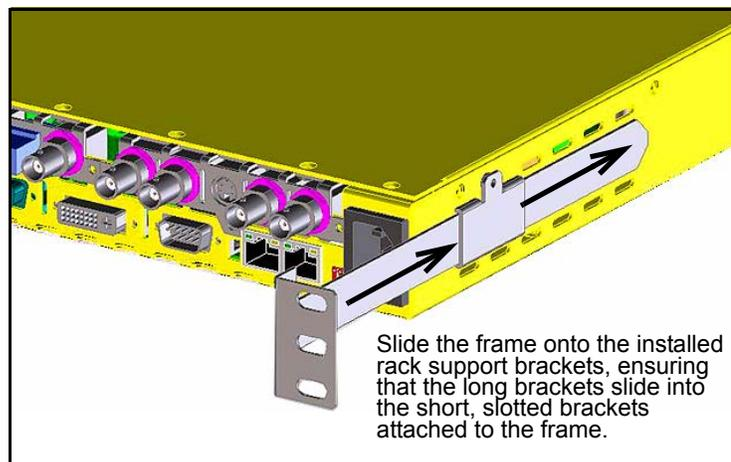

Figure 6. Installed Long and Short Rack Support Brackets
- Push the X75 into the front of the rack, ensuring that the rack support brackets slide into the slotted rack supports. (See Figure 6.)